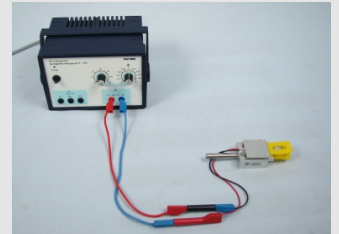

Figure 2
2. Now connect the thermogenerator to the power supply unit using the two double sockets and the cables (Fig. 2). The power supply unit is switched off. Make sure that the red cable of the thermogenerator is connected to the negative pole of the power supply unit (blue socket) and the black cable to the positive pole (red socket).